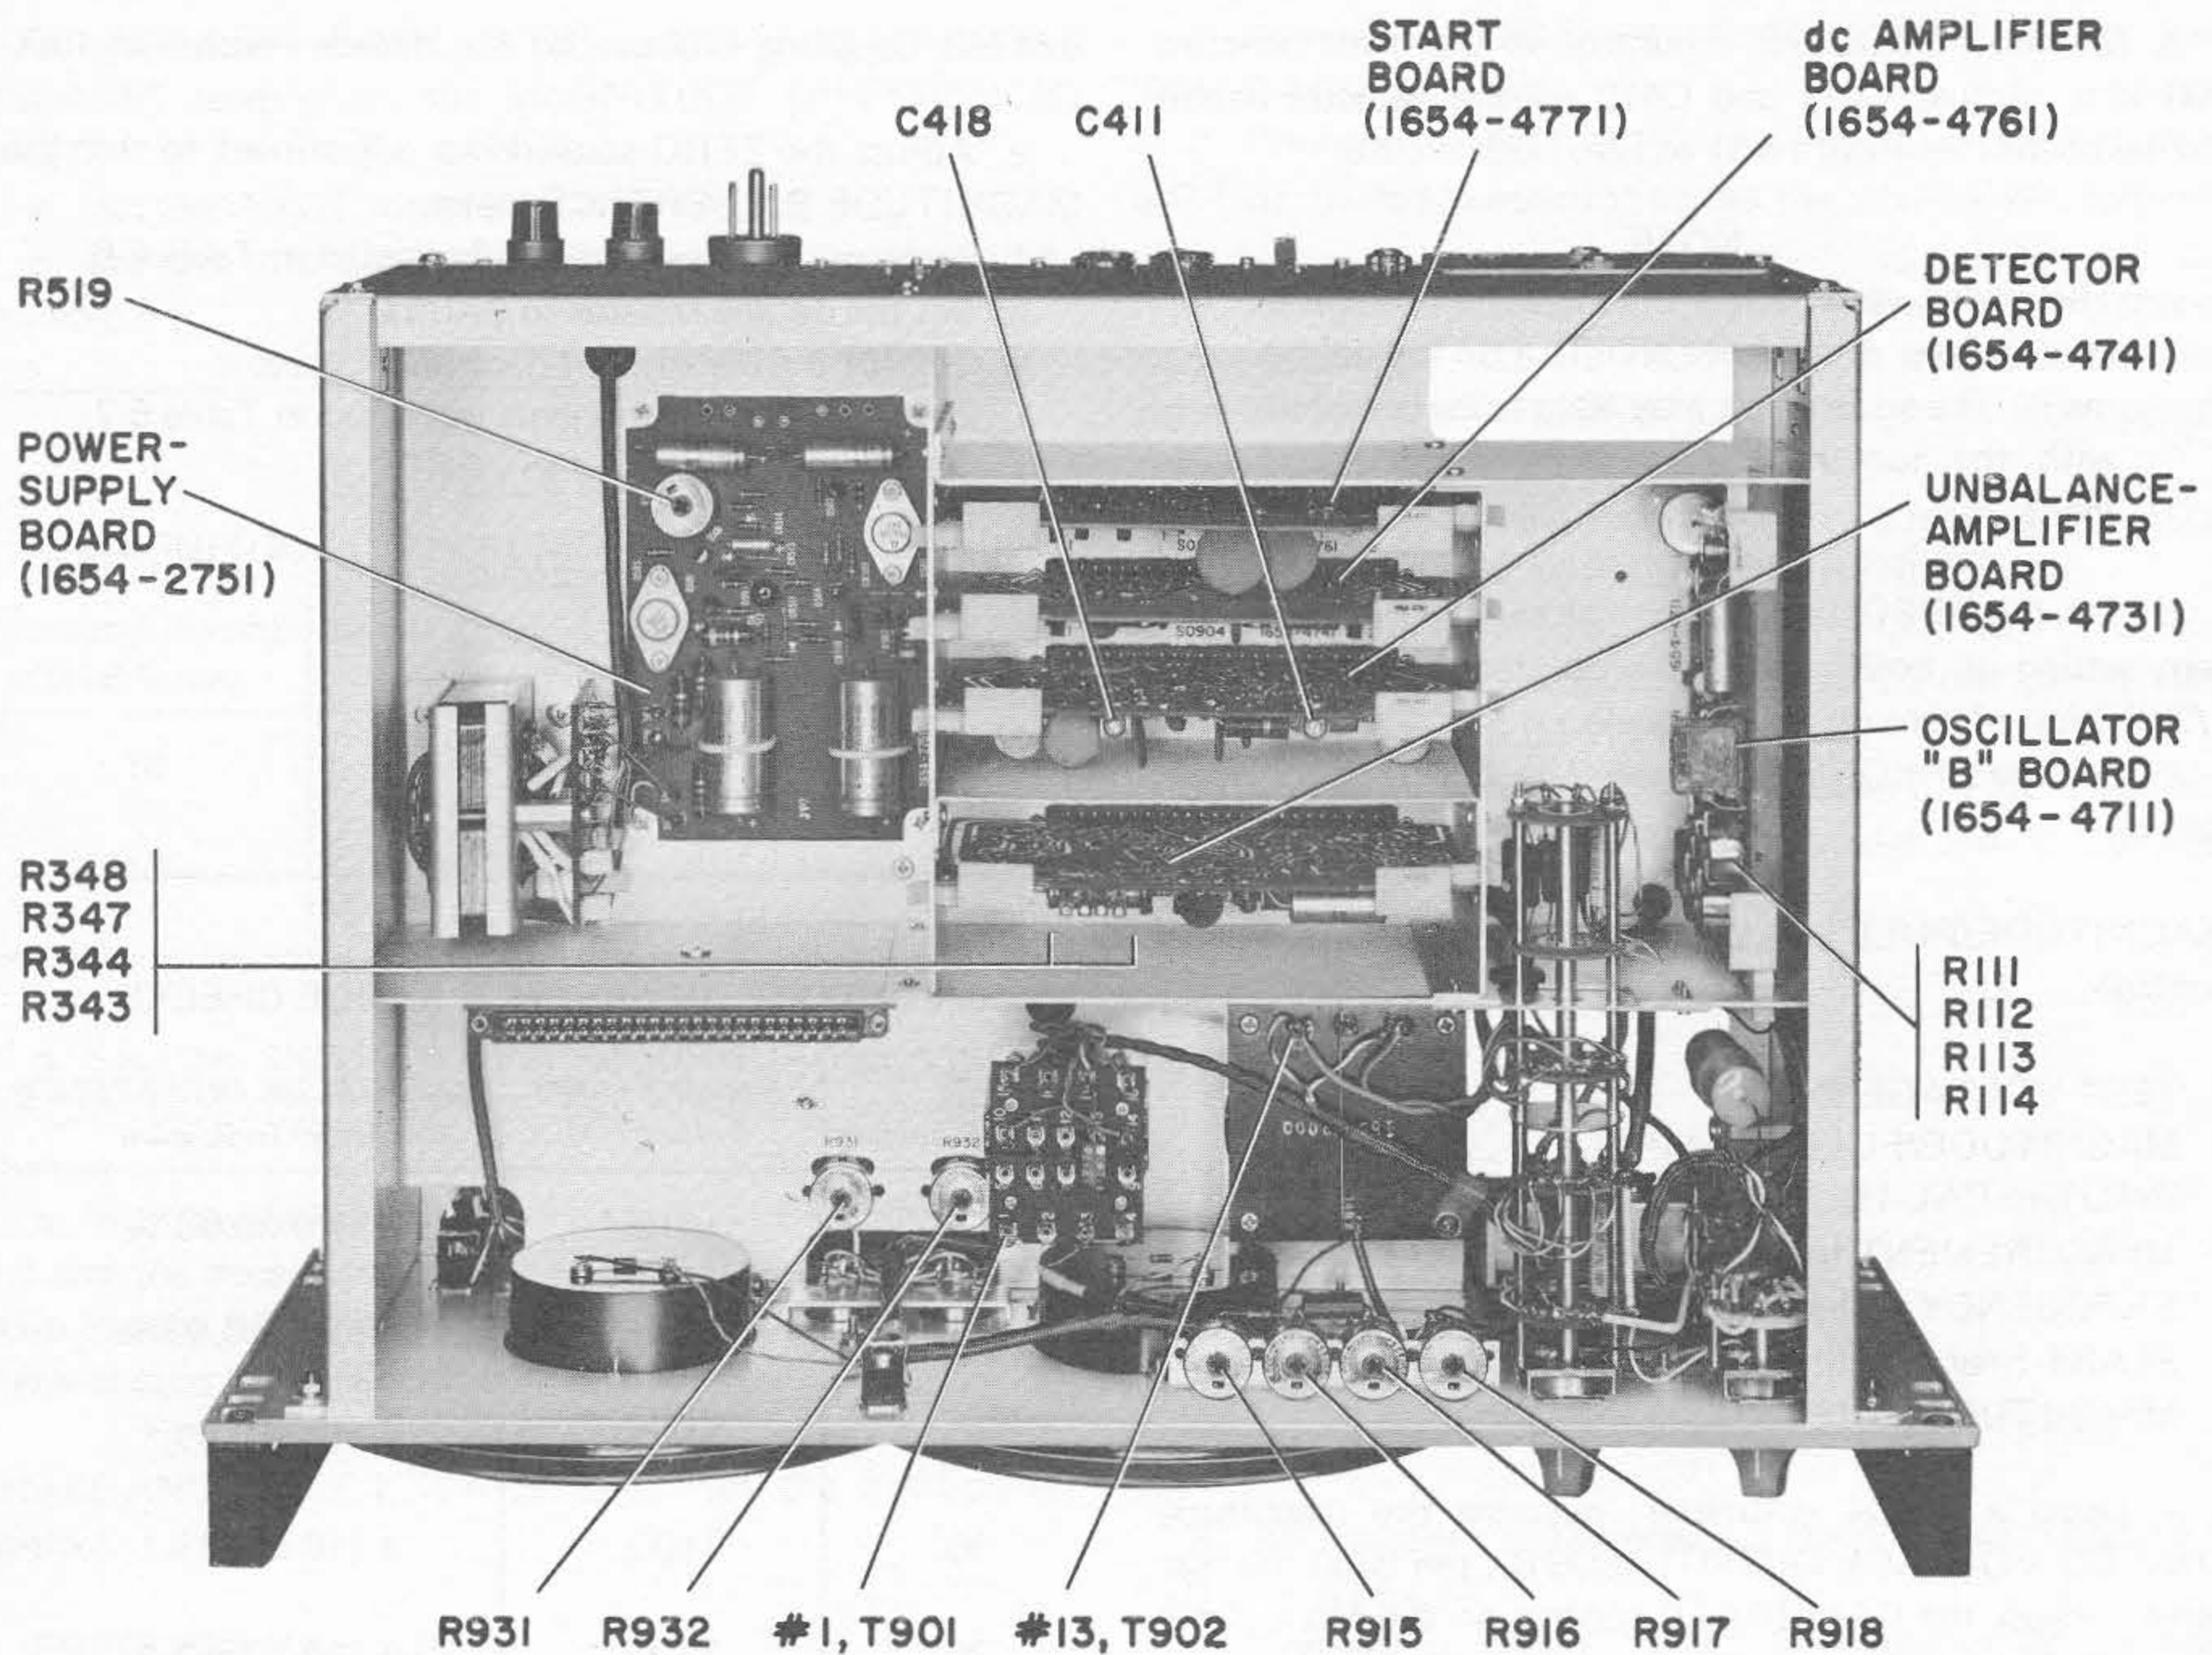

Figure 6-1. Top interior of 1654 Impedance Comparator.
± 15 -V SUPPLY. Connect the instrument to power line (all plug-in etched boards must be installed) and measure the voltage at AT505/506 (see Figure 2-8) on the power-supply etched board. If necessary, adjust R519 (see Figure 6-1) to obtain a voltage reading of -15.0 V.
TEST VOLTAGE. Using the digital voltmeter, measure the ac voltage at terminal #13 on transformer T902 (see Figure 6-1). This measurement should be made for each test voltage, as indicated in Table 6-5.
c. Set the FREQUENCY control on the front panel to 100 kHz. Adjust C411 and C418 on the detector-circuit etched board (see Figure 6-1) to zero both meters.
b. Adjust R932 (see Figure 6-1) for a reading of +10.0 on the MAGNITUDE DIFFERENCE meter.
- d. Adjust R931 (see Figure 6-1) for a reading of -0.06 radian on the PHASE ANGLE DIFFERENCE meter.